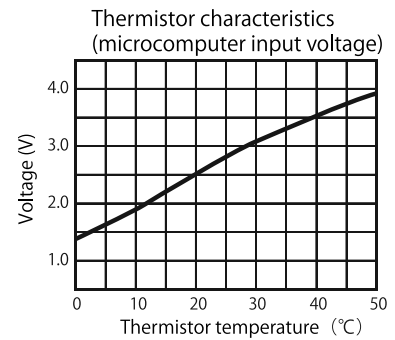
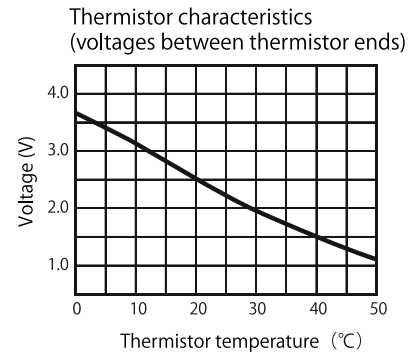

Fig. 5-2
Fig. 5-3
- The relationship between the thermistor temperature and circuit voltage is roughly as shown in Fig. 5-2. If it is easier to take actual measurements between the terminals of CN1A, refer chart in Fig. 5-3 "Voltages between Thermistor ends."